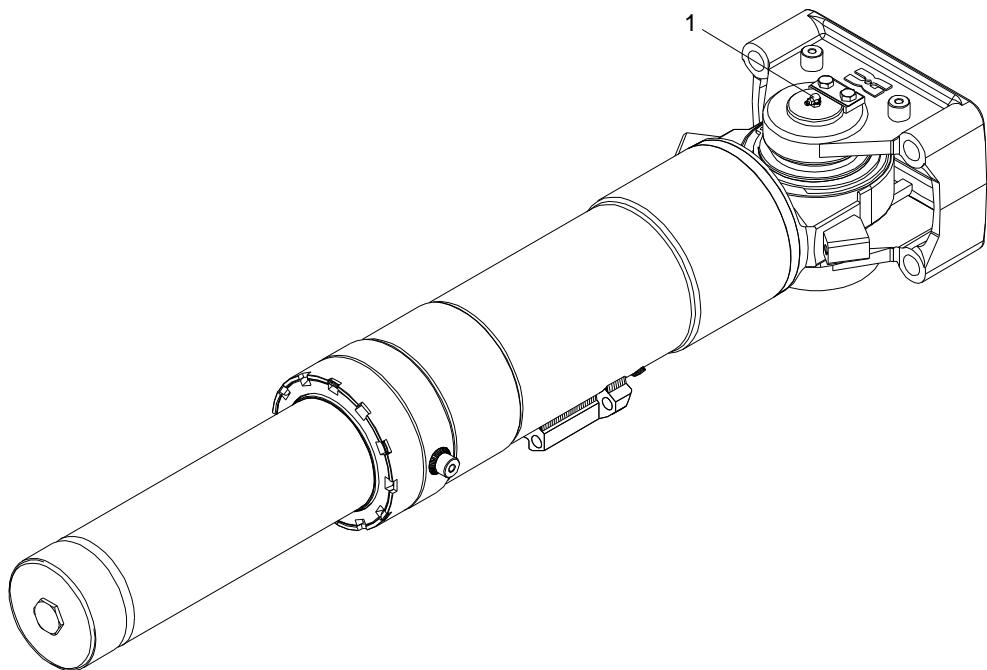

Figure 6-3: Lubricate Pivot Anchor
1. Grease with Lagermeister 3000+ through grease fittings (1). Use grease gun and apply until fresh grease is pressed out. Wipe off excess grease. See Figure 6-3.